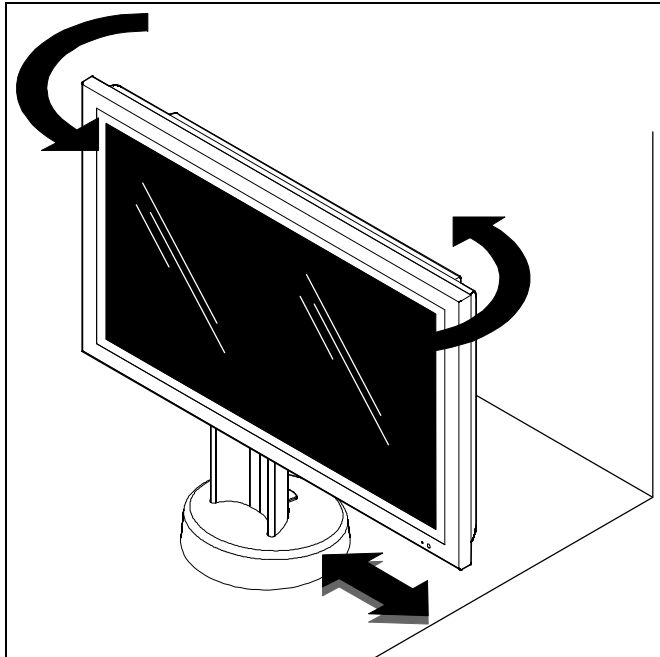

Figure 1
1. Base rotation is factory-set at  $90^\circ$  but may be changed to  $180^\circ$  or  $270^\circ$  to allow necessary rotation. (See Figure 1)